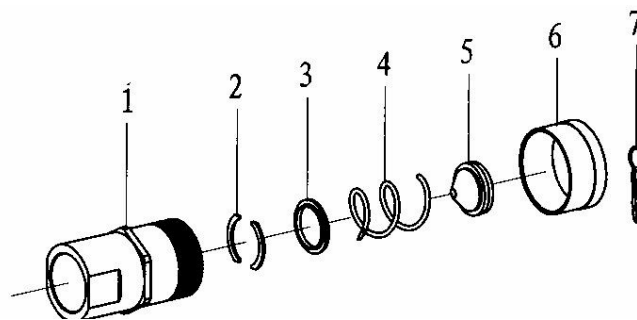

Fig. 15
- Quick coupling (1 7/8-12UN) (Fig15, Table 12)